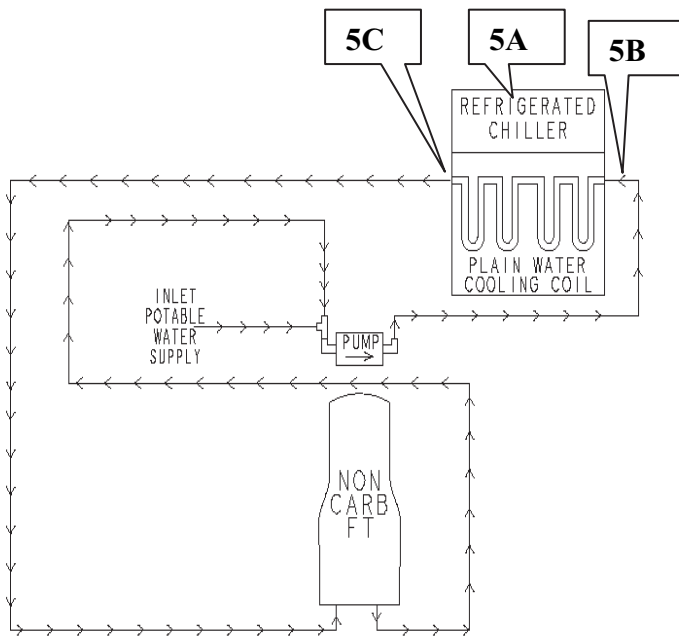

FIGURE 5
6. **Chiller Installations:** Connect another insulated beverage line to the plain water coil outlet (5C) of the chiller (5A). Secure line to the coil outlet (5C) of the chiller (5A) mechanically. If applicable us an otiker clamp (See Figure 5).